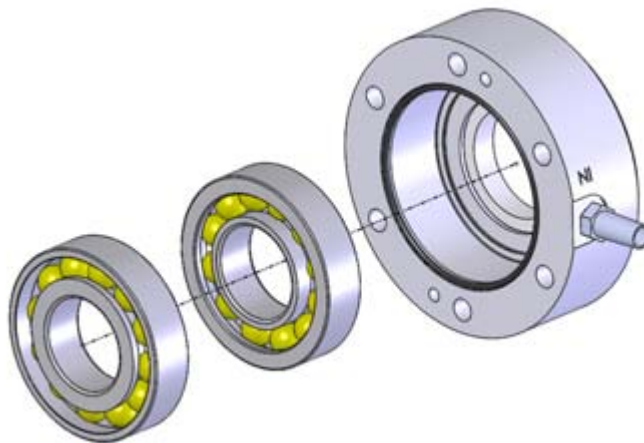

Figure 9. Removing the bearings from the bearing housing
13. Remove the bearings from the bearing housing by pressing them from the impeller side in accordance with figure 9 .